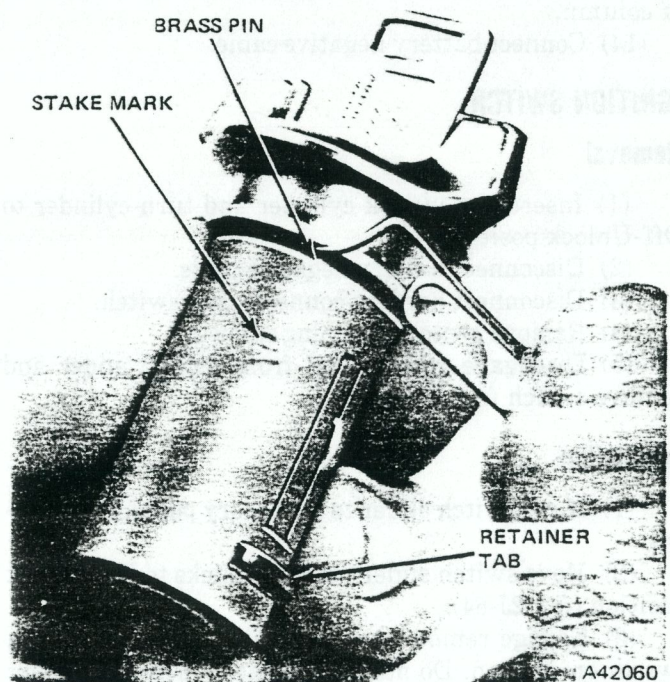

Fig. 2J-65 Compressing Lock Cylinder Plunger Pin
(1) Insert key in lock cylinder.
(2) Hold lock sleeve and turn cylinder to Lock position.
(3) Fabricate plunger pin compressor tool from paper clip. Make 90° bend in one end of clip about 1/4 inch (6.35 mm) from end (fig. 2J-65).
(4) Turn lock cylinder to Accessory position. Brass plunger pins in lock sleeve should now bear against lock cylinder stop lug (fig. 2J-66).